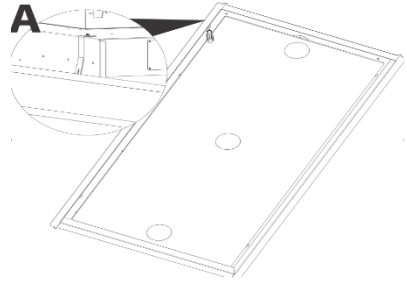

Fig 6
4. Tighten the screws on the 4 hanger hooks to fix in place (Fig 6).